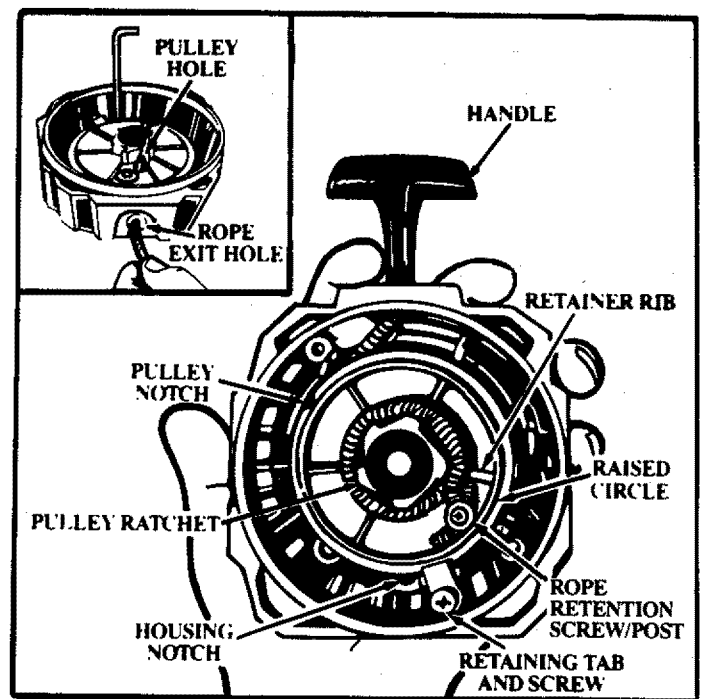

Figure 31
9. Hold Pulley Housing as shown in Figure 31. Hand turn the Pulley clockwise as far as it will go. Then, turn the Pulley counterclockwise until the Pulley Notch is aligned with the Housing Notch next to the Retaining Tab and Screw. Figure 31. Next, turn the Pulley one complete turn counterclockwise until the notches are aligned again.
10. Insert the small hex wrench into the hole formed by the Notches to hold the Pulley in position. Figure 31.
15. Insert the other end of the Rope through the Rope Exit Hole, into the inside of the Housing, into the Pulley, and up through the Pulley Hole. See Inset, Figure 31.
16. Wrap Rope counterclockwise around the Pulley Ratchet and tuck loose end under Rope where it comes out of the Pulley Hole. Leave a 1-inch tail laying flat on top of the Pulley between the Retainer Rib and the rope Retention Screw/Post. Figure 31.